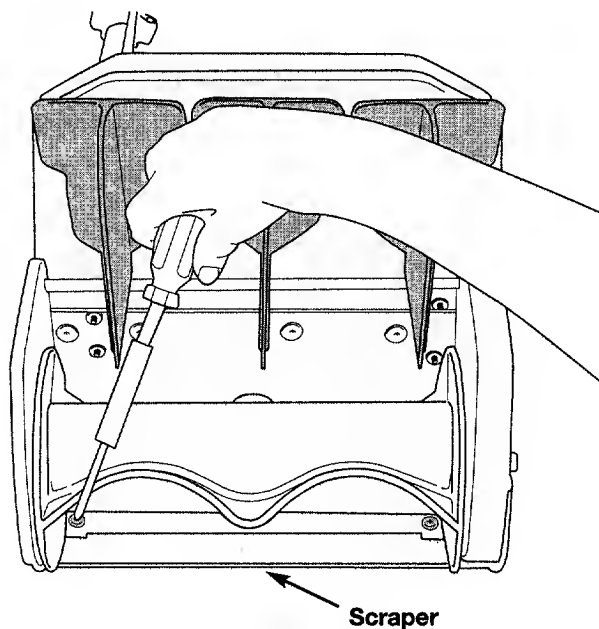

Fig. 9
1. Place snow thrower on the ground or on work bench. Position unit so vanes and rotor are facing up (Fig. 9).
2. Beneath the rotor, locate and remove the three (3) screws securing the scraper to the housing using a #T20 Torx bit or flat blade screwdriver (Fig. 9).
4. Reinstall the three (3) screws to secure new scraper to the unit. Torque the screws to **25-30 in•lb (2.8-3.3 N•m)**.